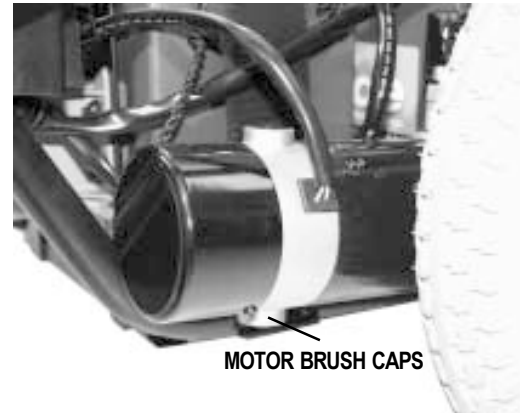

Figure 29. Motor Brush Caps
2. Unscrew the motor brush caps. See figure 29.